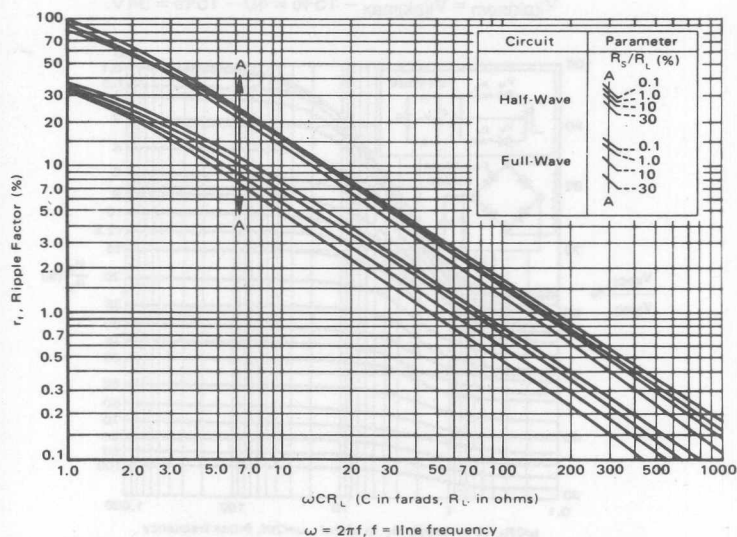

Fig. 3 - Ripple Voltage Vs. Input Capacitance and  $R_s/R_L$
8. Let's calculate the ripple voltage obtained with  $\omega CR_L = 10$  and  $\frac{R_s}{R_L} = 0,02$  from graph of fig. 3